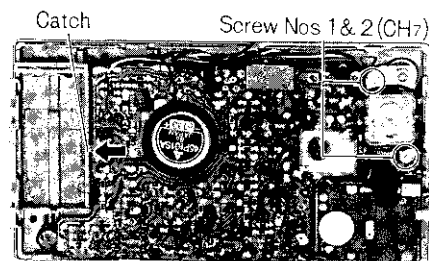

Fig. 6
3. Remove 2 screws (nos. 1 & 2) as shown in fig. 6.
4. Push the catch in the direction of arrow, as shown in fig. 6.